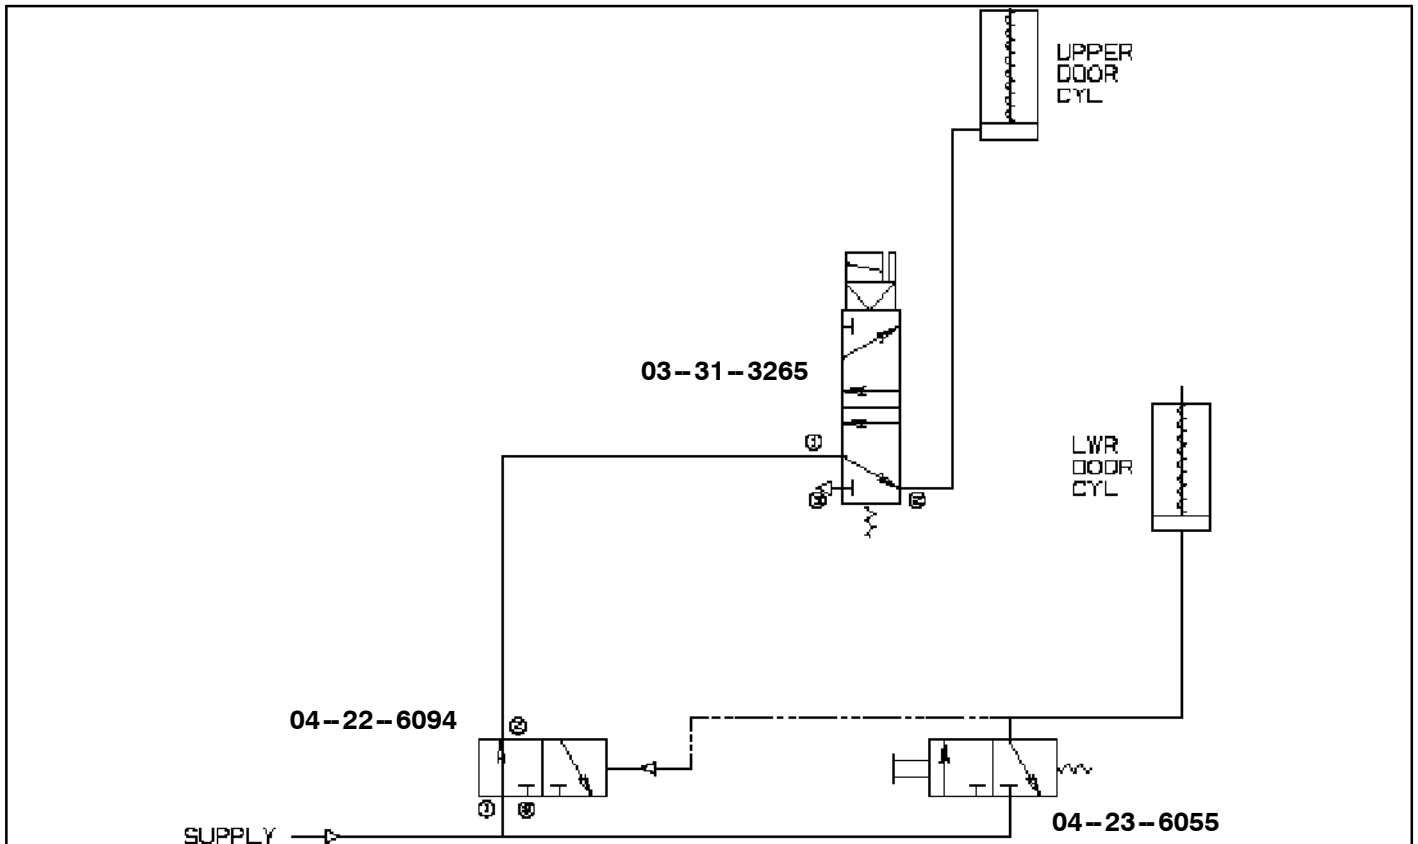

Figure 27.
- 37. Route a 24 inch piece of tubing–airline, ¼ black, p/n 21–7408–155, between the existing valve, p/n 04–22–6094 and assy–solenoid 03–31–3265 (refer to Figure 27). Pass tubing–airline through grommet and then connect with assy–solenoid 03–31–3265 (refer to Figure 27).